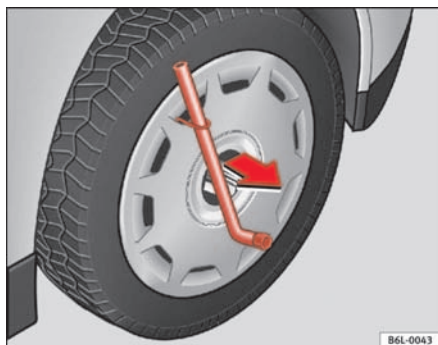

Fig. 140 Remove the complete hub cap
- Remove the wheel cover⁸⁾ using the wire hook ⇒ fig. 140.